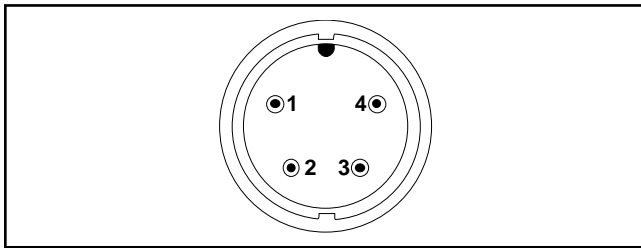

Figure 10. RF Detector Cable Connector Pin Layout
6. Connect the DMM leads between pins 1 and 2 of the RF detector cable connector (Figure 10). Measure the resistance value, which is the maximum resistance of R1 (approximately 40.5 KΩ is typical). Record this value; it will hereafter be referred to as “R_T”.